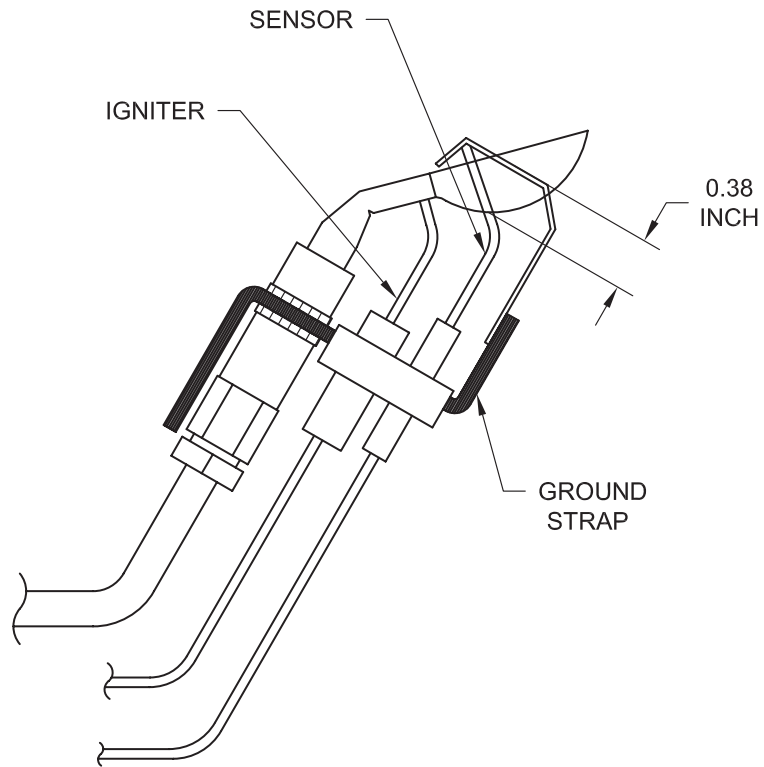

Figure 4: Pilot Burner
4. Check pilot flame. See Figure 4. The pilot produces a single flame. The flame should be steady, medium hard blue enveloping  $\frac{3}{8}$  to  $\frac{1}{2}$  inch of sensing probe. If flame is yellow and lazy, follow instructions TO TURN OFF GAS TO APPLIANCE (see Figure 2), and contact qualified service agency.